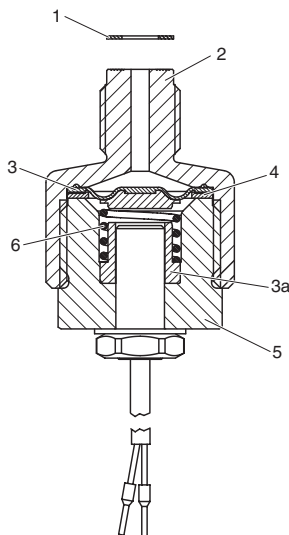

fig.: 7
- ▶ Take hold of the top section (2) of the diaphragm rupture detector (see Fig. 7).
- ▶ Secure the casing (5) with a fork wrench - not the painted nut.
- ▶ Place the new separating diaphragm (3) in the top section with the light side (PTFE) up.
- ▶ Place the washer (4) in the top section.
- ▶ Insert the spring (6) into the casing (5).
- ▶ Bring casing (5) towards the top section (2).
- ▶ Check that the spring (6) is seated correctly on the spring mounting (3a).
- ▶ Screw the casing (5) into the top and tighten screws.